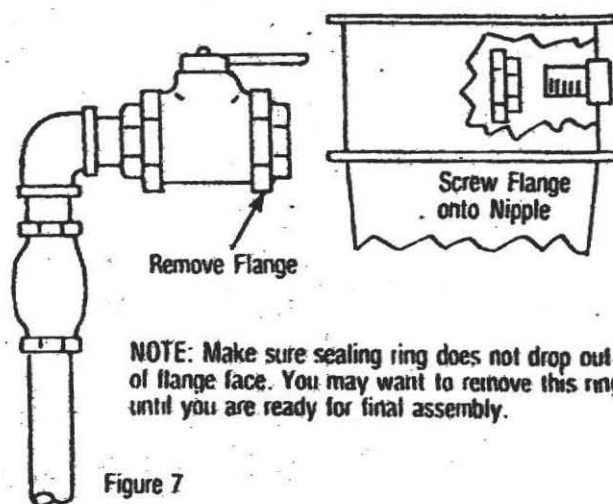

Figure 7
A. Remove threaded flanged end from valve assembly. Be careful not to drop square sealing ring out of flange. Screw threaded end of flange onto discharge pipe nipple. (See Fig. 7).